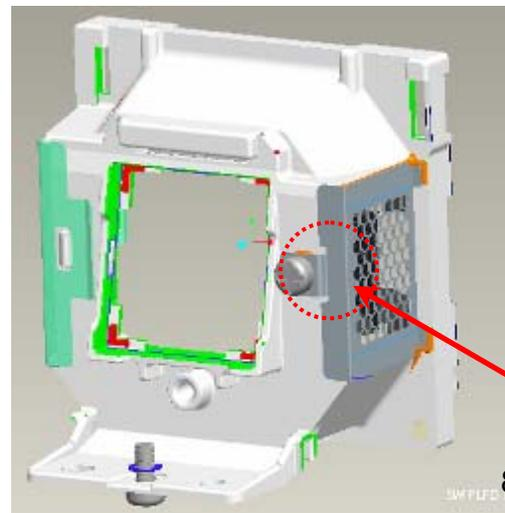

Fig. 1-4
- III. Assemble “FIN” with Lamp holder and lock screw well (Figure 1-4).